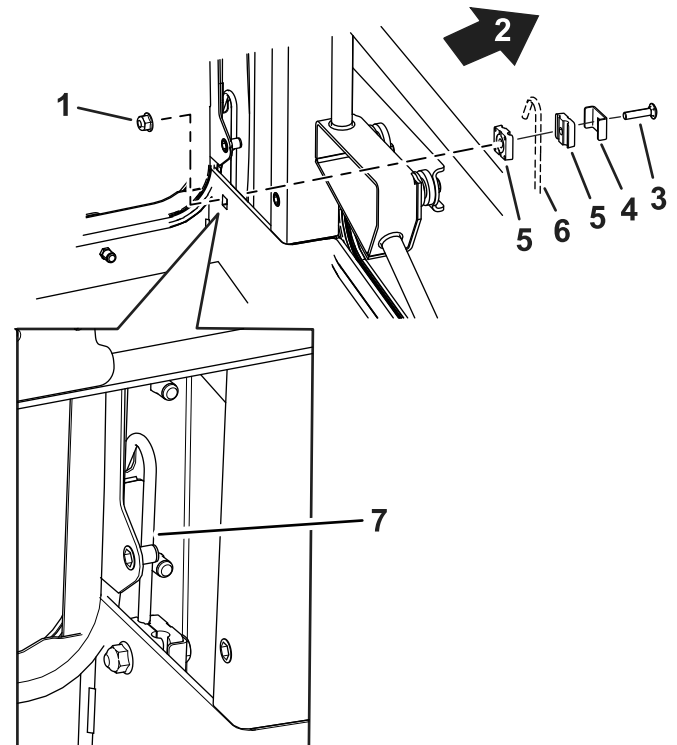

Figure 16
7. While lowering the cab, position the vent tubes through the rear posts (Figure 16).
1. Install the vent tubes to each side of the cab. Refer to Figure 16.
2. Secure each vent tube with a bolt (5/16 x 1-1/2 inch), a plate clamp, a tube clamp, and a nut (5/16 inch) (Figure 16).